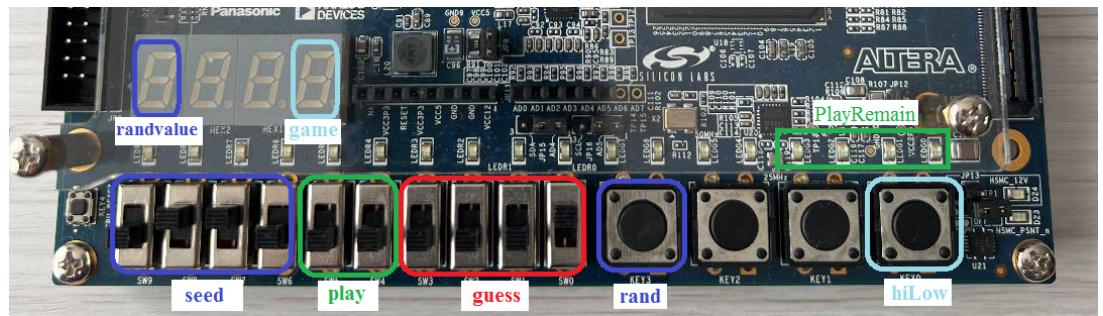

Figure 5.1: The input and output you should use to realize the High/Low Guessing game.
Your goal in this lab is to create a digital version of the guessing game using the development board using the inputs and outputs shown in Figure 5.1. In this case, the FPGA will play the role of secret keeper. You will enter a seed value using the **seed** slide switches. The seed value will be “randomized” into a 4-bit *secret number* using a linear feedback shift generator (more about this later). Pressing the **rand** button reveals the 4-bit *secret number* as a 1-digit hexadecimal value on the **randValue** 7-segment displays. Obviously, the guesser should not press the **rand** button during regular game play.
- 3) The input signals are color-coded to correspond to the colors used in Figure 5.1.